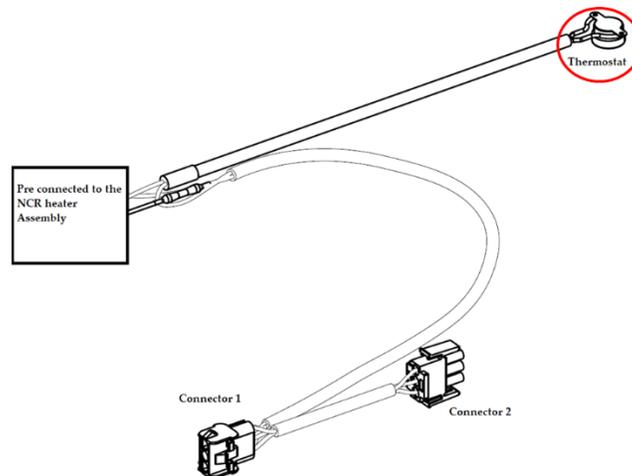
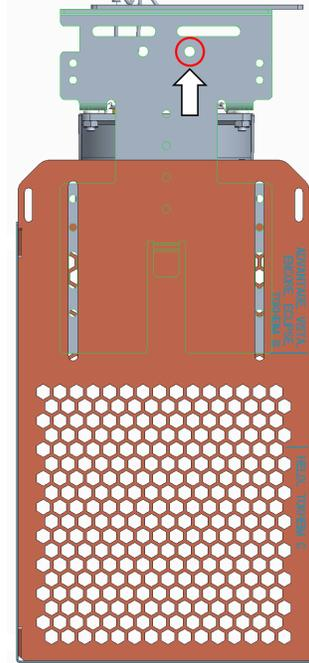

Figure 78
Figure 79
31) Position thermostat (identified in Figure 78) at the following location as shown in Figure 79 and secure with provided cable tie (006-8616073).